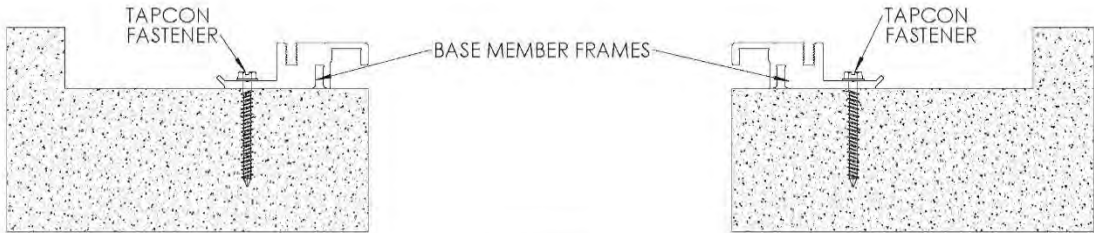

FIGURE 2
- 2. Position base member frames in blockout per shop drawings. Using the frame as a template mark, drill 5/32” holes for Tapcon fasteners. Install base member frames to the blockout opening with fasteners, making sure not to over tighten. **See Figure 2**